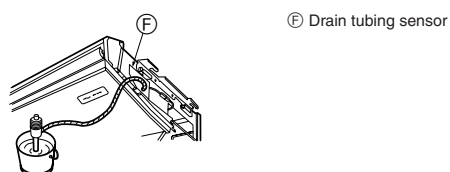

Fig. 5-3
1. Attach the joint socket ⑤ supplied with the unit to the drain port on the unit with a vinyl chloride adhesive.
2. Fasten the socket cover ⑥ supplied with the unit to the joint socket ⑤.
3. Attach the field drain tubing (VP-20) to the joint socket ⑤ with a vinyl chloride adhesive.
4. Wrap the drain tubing cover ⑦ supplied with the unit. (Seam taping)
5. Check for correct drainage. (Fig. 5-3)